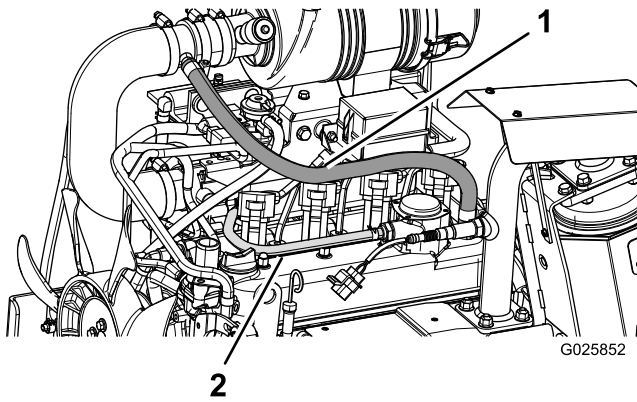

Figure 11
10. Locate the engine PCV vacuum hose (Figure 11). Mark the midpoint and cut this hose in half. Connect the 2 cut ends of the hose using the 1/4 inch tee.
12. Locate the crankcase breather hose running from the engine rocker cover to the air-cleaner inlet tee (Figure 11). Mark the midpoint and cut this hose in half. Connect the hoses using the 1/2 to 5/16 inch tee.